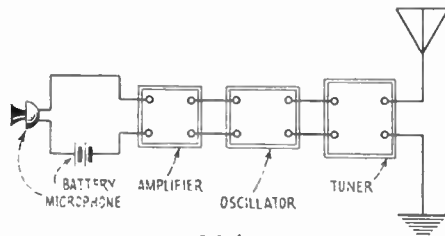

FIG. 4
Fig. 4 Complete circuit diagram of 3-tube Regenerative Interflex Circuit. (1) is the Flexo-Coupler, (2) crystal detector, (3) variable condenser, (4) Small balancing condenser. (5) detector-coupled audio amplifier tube. (6) second audio tube, (7) third audio tube, (8) and (9) filament control jacks, (10) Amperites, (11) audio transformers, (12) fixed condenser, (13) carbon type rheostat.
Figs. 4, 5, 6, 7 and 8 show the complete set. Fig. 4 shows the complete wiring diagram. This is exactly the same as the fundamental circuit shown in Fig. 1, except that there has been added a two-step amplifier, with two automatic filament controls. For the two last amplifier tubes the automatic resistances 10 are excellent, rheostats not being necessary at all.
Fig. 4. An interesting feature of this circuit is the fact that each of the R.F. stages has its plate supply by-passed to the filament through a .5 mf. condenser.
Fig. 4 gives a schematic layout of the various instruments used in transmitting by radio telephony.
To investigate further the effect of the primary diameter on the coupling, the curves shown in Fig. 4 were computed. The same secondary coil as used in obtaining Fig. 3 was assumed, having a self-inductance of 164.2 microhenries, and calculations were performed, various primary coils of different diameters but of the same number of turns being assumed.
In these curves (Fig. 4) the primary coil was always at the center of the secondary, that is, their center lines coincided. The calculations were started, with the assumption that the primary coil was to have always 12 turns of number 20 D.C.C. wire on it. The diameter of the primary was taken as small at first and gradually increased. The line AB in Fig. 4 indicates a case where the primary has the same diameter as the secondary. Of course, this is physically impossible, but the point is indicated to show where the maximum value of mutual inductance and coefficient of coupling are obtained.
the point, let us consider the curve marked A in Fig. 3, and the curve marked C in Fig. 4. The first of these curves was found experimentally, and the second was calculated. The secondary coil was the same for each of these curves. The primary coil for curve A, Fig. 3, was 3 inches in diameter, and was placed at the center of the secondary.
The curves in Fig. 4 assumed the primary always at the center of the secondary. Therefore, it will be seen, by following the dotted line vertically in Fig. 4, that for a primary diameter of 3 inches the coefficient of coupling obtained from the curve is 65.5 per cent. This is indicated at the point C in Fig. 4. The measured value of the coupling, obtained from the point D in Fig. 3, is 84 per cent. There is a considerable difference between these two values, which must be due to the capacity of the coils and the capacity between the two coils.
This zero value of frequency corresponds to direct or constant current. The mutual inductance at zero frequency is the true mutual inductance, for at zero frequency the effect of the capacity between the coils is nil. The agreement between the value indicated by the point A in Fig. 5 (the mutual inductance at zero frequency) and the calculated value indicated by the point D of Fig. 4 is very good. In fact, both points show a value of 35.5 microhenries for the mutual inductance. The curves of Fig. 4 were calculated without including the capacity of the coils, which, of course, is not known exactly.
The point A, at zero frequency, agrees with the calculated point D of Fig. 4. Note that M increases with the frequency.